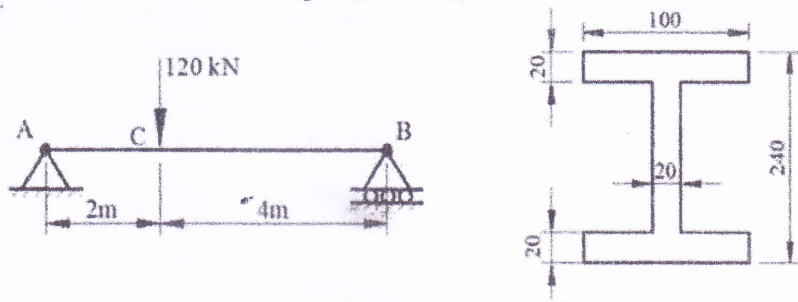

Figure 5
- b) The cross section of a simply supported beam is 'I', 100 mm wide x 240 mm deep with 20 mm thickness throughout. It carries a point load of 120 kN as shown in figure 5. Calculate the shear stresses at prominent points of the section and draw the shear stress distribution diagram. 10M